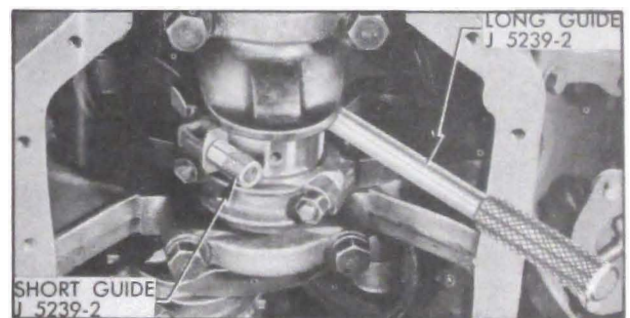

Figure 2-30—Connecting Rod Bolt Guides Installed
4. With No. 1 crankpin straight down, remove the cap with bearing shell from No. 1 connecting rod, then install the *short* Connecting Rod Bolt Guide J 5239-1 on the lower connecting rod bolt, and install the *long* Guide J 5239-2 on the opposite bolt, above crankpin. Turn guides down to hold the bearing upper shell in place. See figure 2-30.